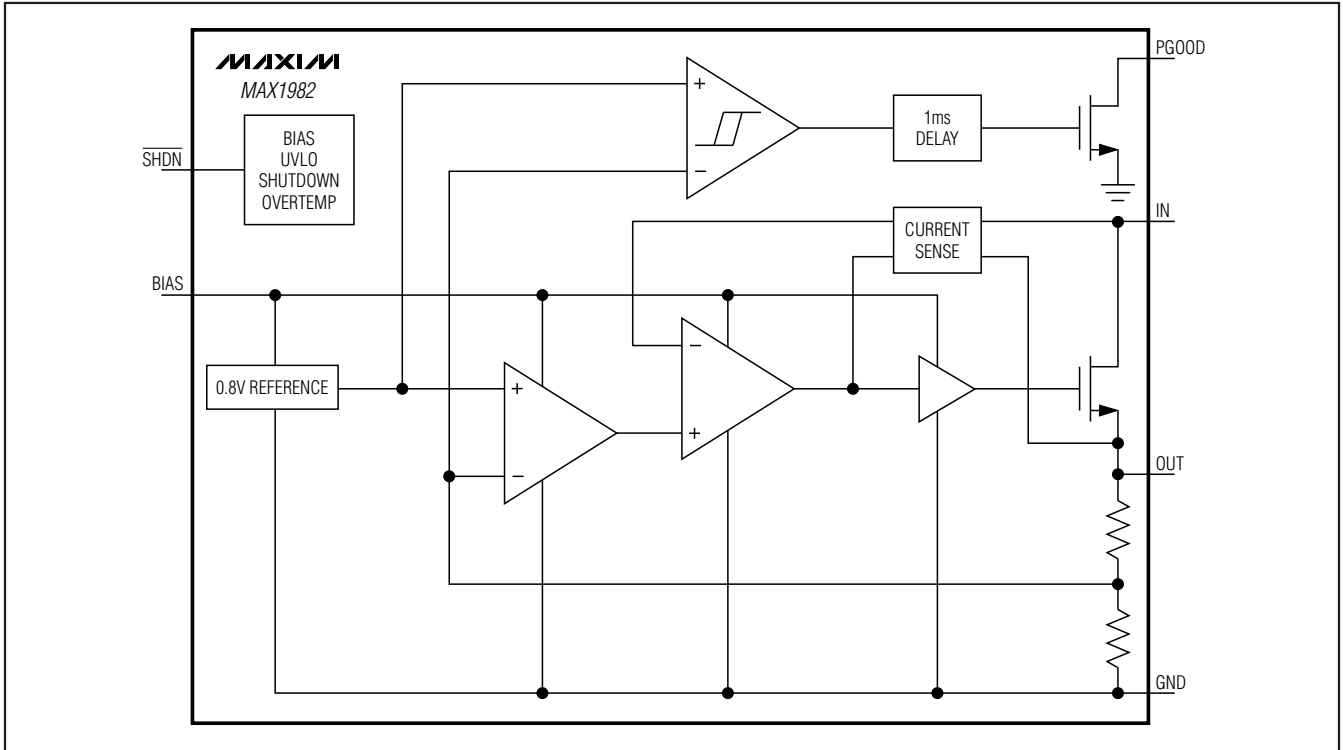

Figure 1. MAX1982 Functional Diagram
The MAX1982/MAX1983 are low-voltage, low-dropout linear regulators with an external bias supply input (see Figures 1 and 2). BIAS is powered by a 4.5V to 5.5V supply that is commonly available in laptop and desktop computers. The 5V bias supply drives the gate of the internal pass transistor, while a lower voltage input at the drain of the transistor (IN) is regulated to provide  $V_{\text{OUT}}$ . Separating the bias input voltages yields higher efficiency. These devices are ideal for applications that require low-voltage outputs from low-voltage inputs. The MAX1982 delivers 1.2V ( $\pm 3\%$ ) at 300mA from an input voltage of 1.25V to 5.5V. The MAX1983 delivers an adjustable output voltage from 0.8V to 2V.